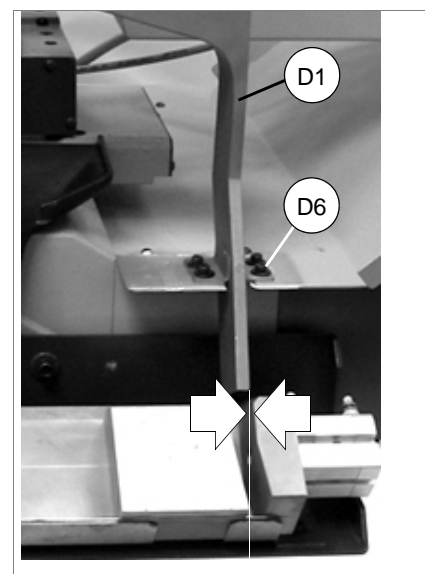

Fig. 6
- 9) Fix the slide (D1) with the 4 screws (D6) (and relative nuts) taking care to align the key outlet with the tray magnet (fig. 6).